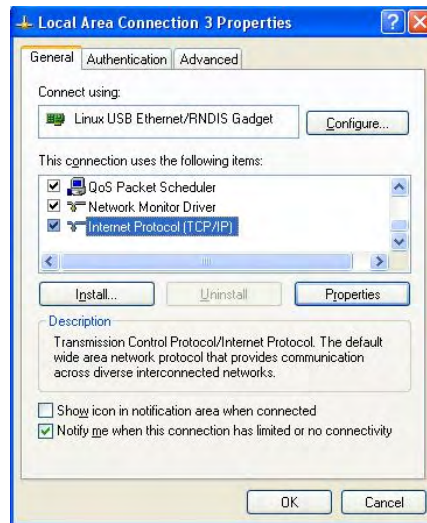
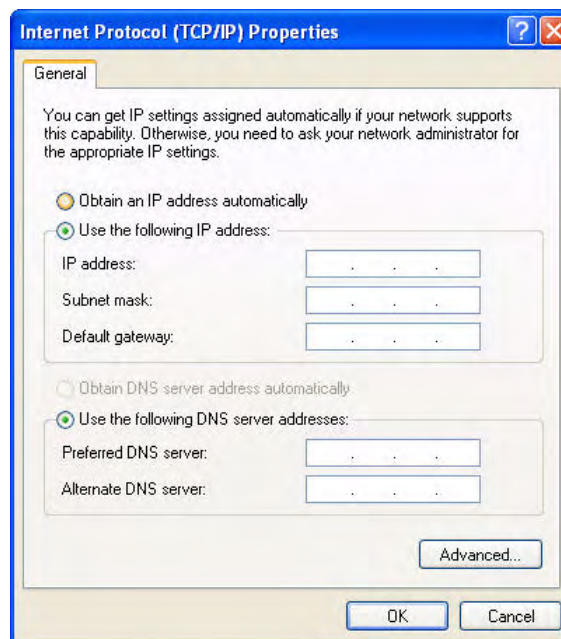

FIG. 31 Local Area Connection Properties
FIG. 32 Internet Protocol (TCP/IP) Properties
- Right click on the selected device and select **Properties** to open the *Local Area Connection Properties* window (FIG. 31).
- In the Local Area Connection Properties window (FIG. 31) under the **General** tab, select *Internet Protocol (TCP/IP)* and click on **Properties** to open the *Internet Protocol (TCP/IP) Properties* window. (FIG. 32)